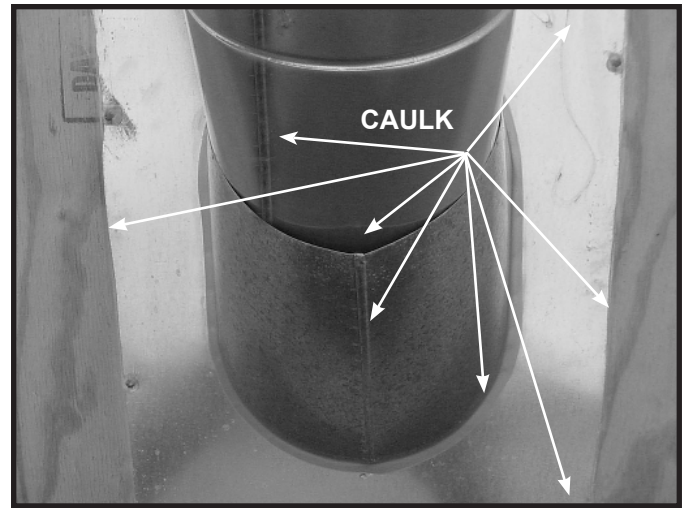

Figure 7.13
- Slide the roof flashing over the pipe sections extending through the roof as shown in Figure 7.13.
- Caulk the perimeter of the flashing where it contacts the roof surface. See Figure 7.13.